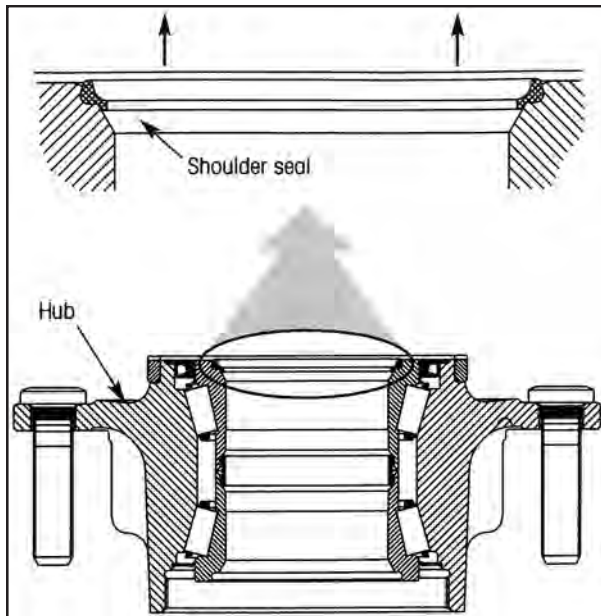

Figure 16. Cross Section View of Wheel Hub
The wheel hub revolves around the axle spindle on two roller bearings. The bearings are lubricated and the hub cavity is sealed against leakage by a seal which rides around an axle ring on the spindle shoulder. Figure 16 illustrates the bearing and seal arrangement.
1. Tighten inner jam nut (Figure 16) with a 12 inch wrench while turning wheel in both directions until there is a slight bind which indicates all bearing surfaces are in contact.